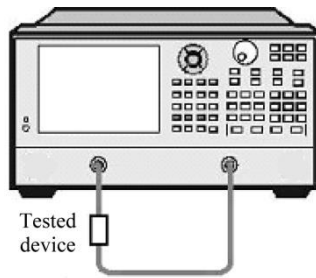

Fig. 8.21 Connection in Linear Phase Deviation Measurement
- 3) Connect the DUT as shown in Fig. 8.21.